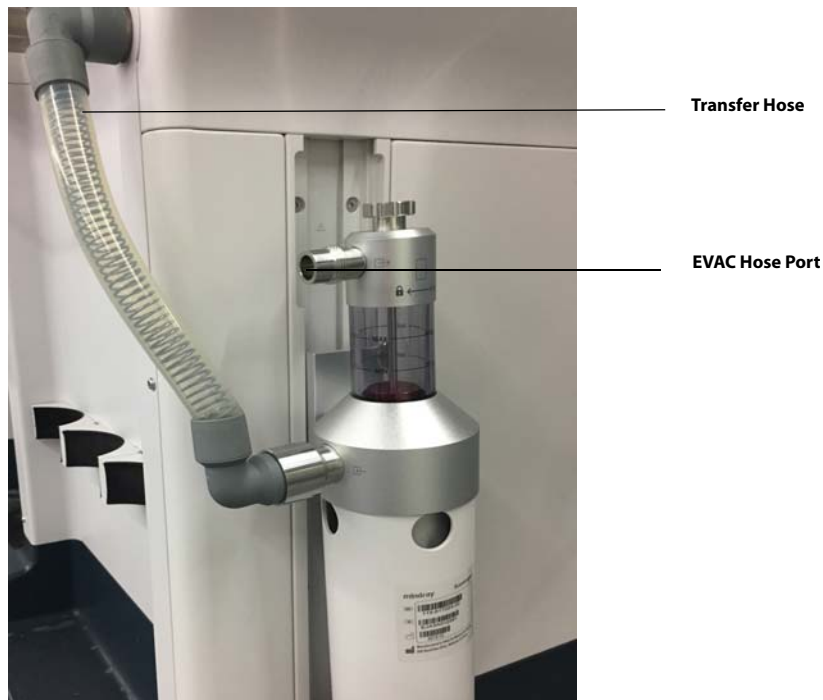

FIGURE 7-25 AGSS and Transfer Hose Removal
1. Disconnect the EVAC hose from the AGSS (see FIGURE 7-25).